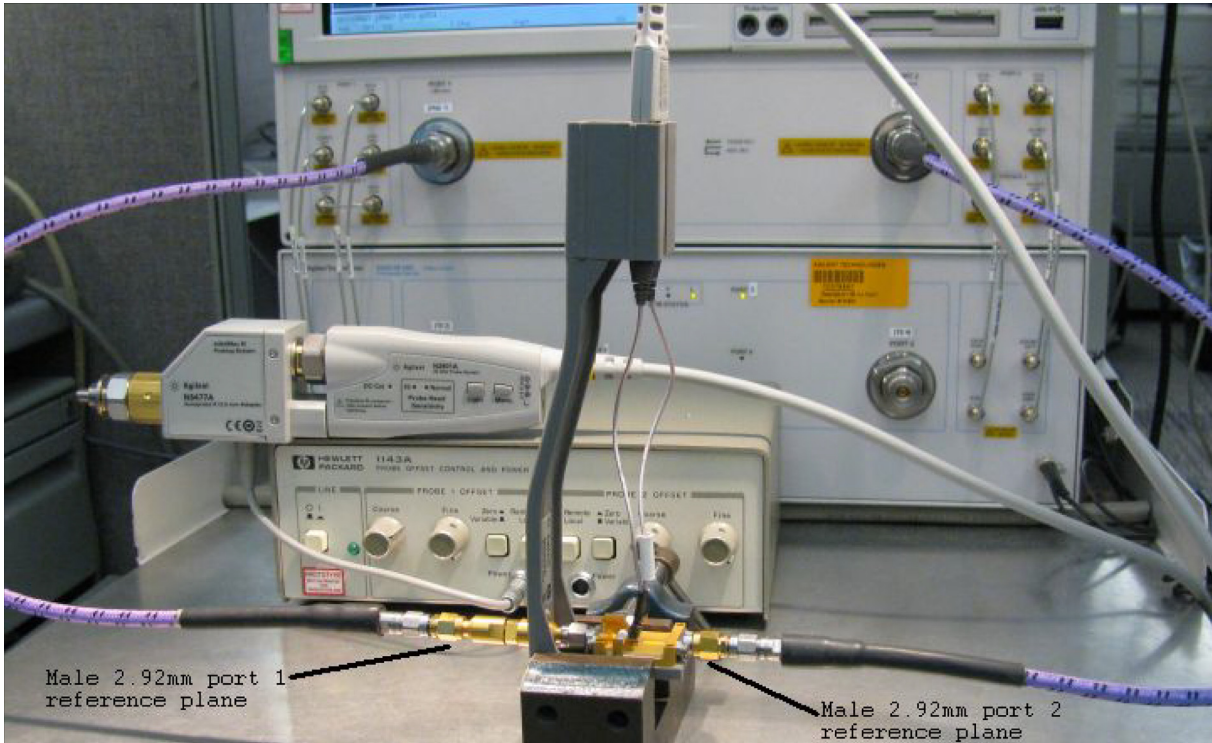

Figure 62 Setup for measuring “Vin” of probe
- 1 Calibrate the PNA to the two male 2.92 mm connectors (connectors can be seen in Figure 62) using the N4692A-00F ECal module (or equivalent 2.92 mm cal kit).
- 3 Connect the 1250-1749 adapter and N5443A PV fixture assembly to the calibrated ports of the PNA as shown in **Figure 62**. A small bench vise is useful to hold PV fixture steady.